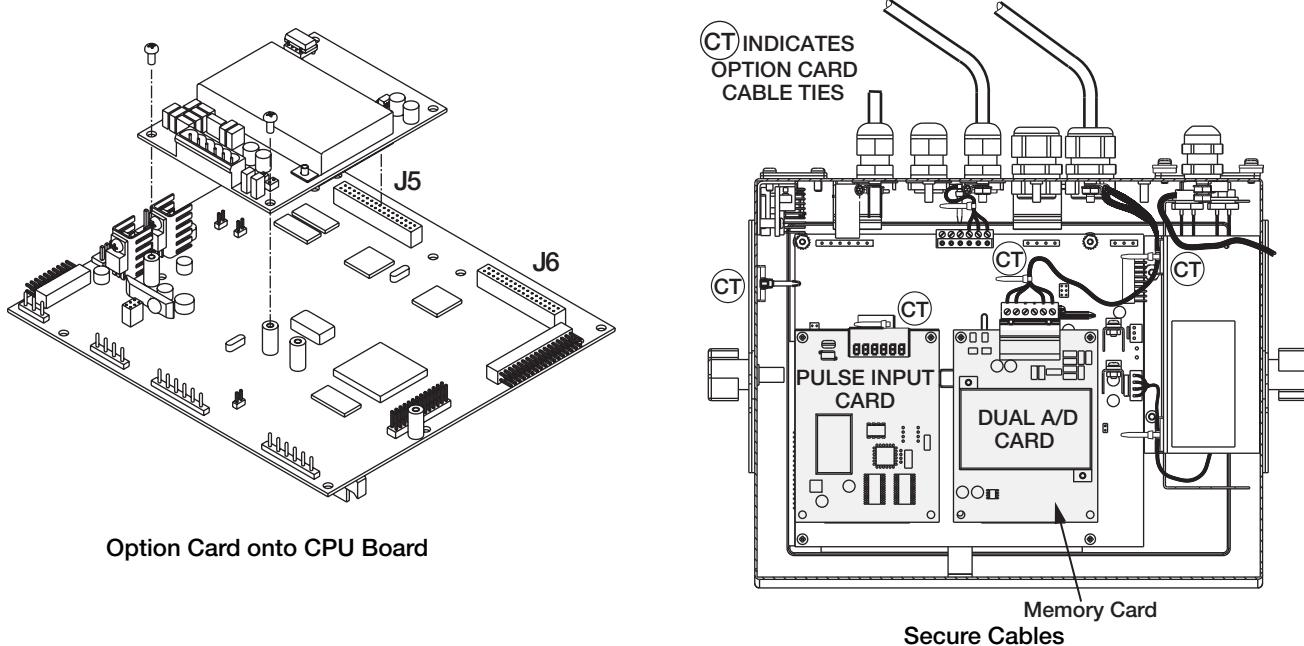

Figure 2-6. *Installing Option Card*
3. Carefully align the large option card connector with connector J5 or J6 on the CPU board. See Figure 2-6.
5. Use the screws provided in the option kit to secure the other end of the option card to the threaded standoffs on the CPU board. See Figure 2-6.
7. Use cable ties to secure loose cables inside the enclosure as shown in Figure 2-6.